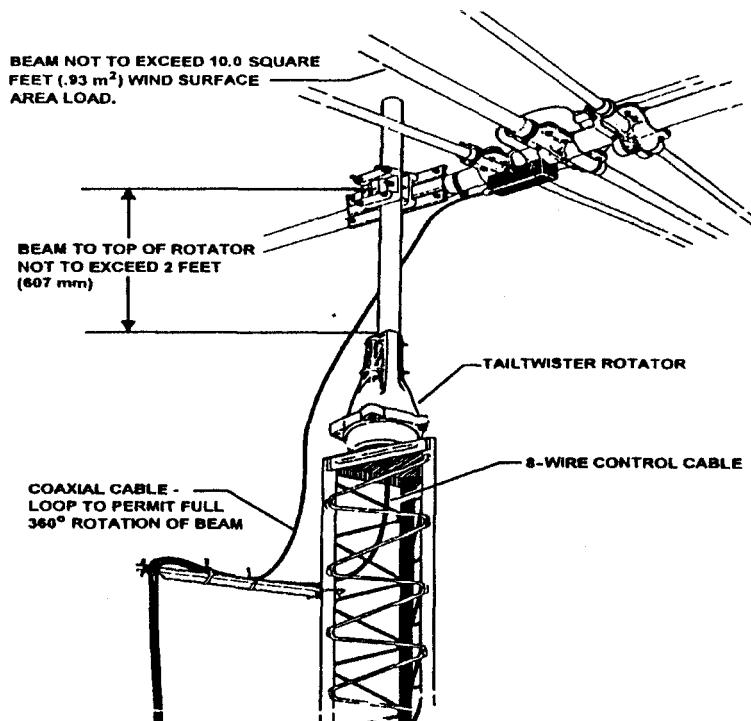
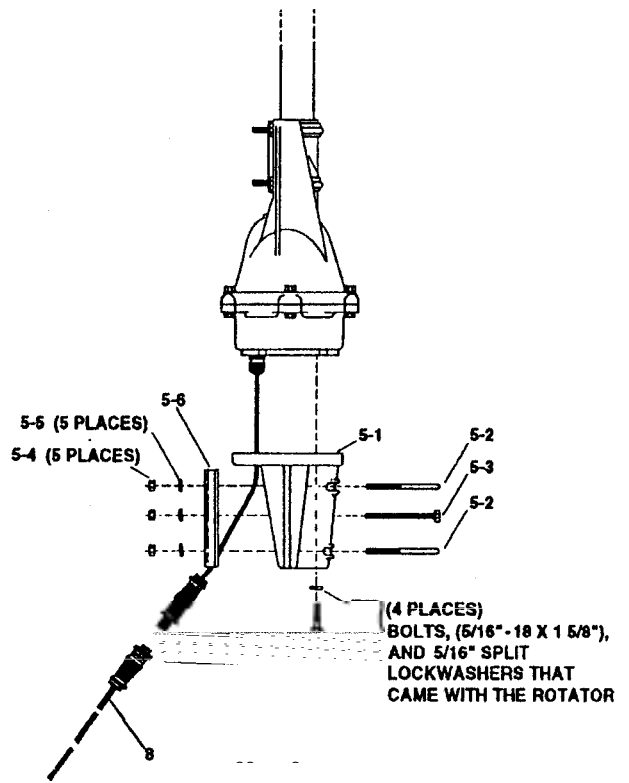

Figure 5
Figure 6
2. An "outside" Tower Mount (see Figure 6) is optional. The rotator is not well protected but the installation is simpler. With an "Outside" Tower Mount, the rotator must be derated to 10 square feet (.93 m²).
Referring to Figures 5, 6, and 7, an outside tower or pole mount is made in the same manner except that the rotator is fastened by four (4) bolts only (not six) to the Lower Mast Support, PN 51467 10. Since the eccentricity of the rotator turning in reference to the tower is no longer important, the shimming procedure is not necessary. The four (4) screws must be torqued to the same specification and the 8-wire cable securely fastened. The lower mast should be pinned with the 5/26"-18 x 4" bolt as shown in Figure 6.
The stock Taittwister T2X is intended to mount on the base plate inside of the tower. However, in some instances, outside tower or mast mounting is desired as per Figures 5 and 6. This kit, P/N 5146710 contains a heavy-duty lower mast support and the necessary hardware to facilitate mounting the T2X on top of a tower